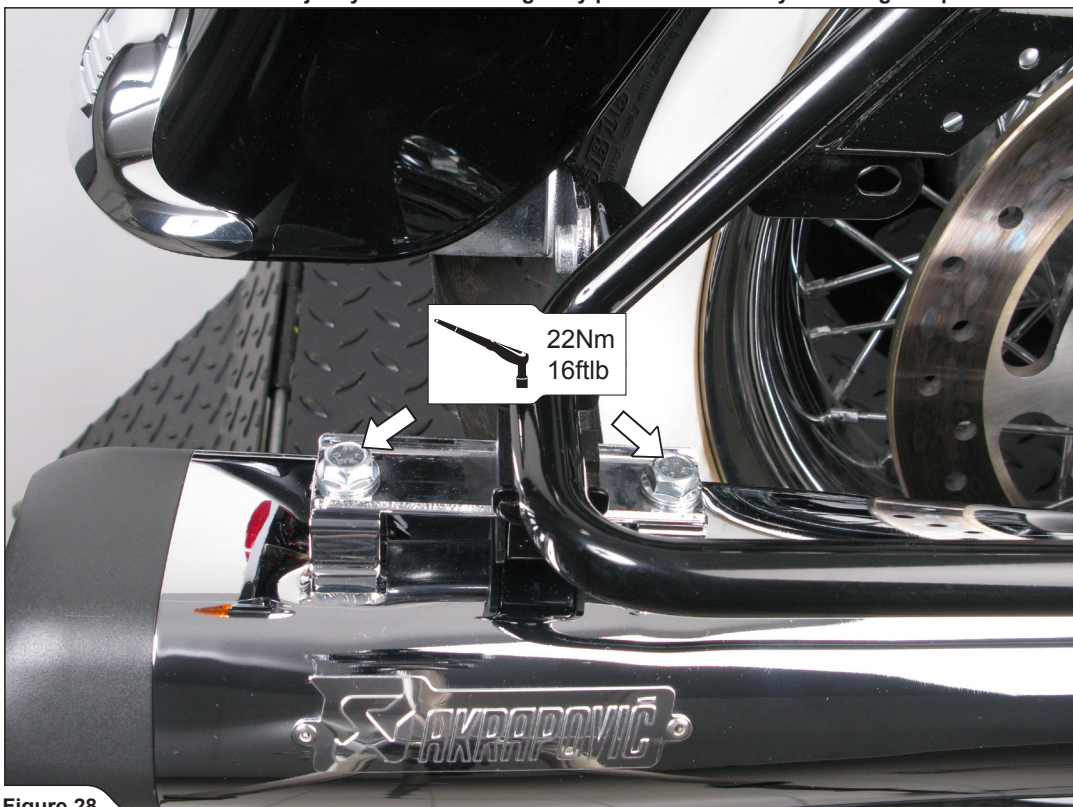

Figure 28
9. Slide the assembled mufflers onto the motorcycle, adjust them in respect to the motorcycle and tighten the mufflers onto the brackets (Figure 28).